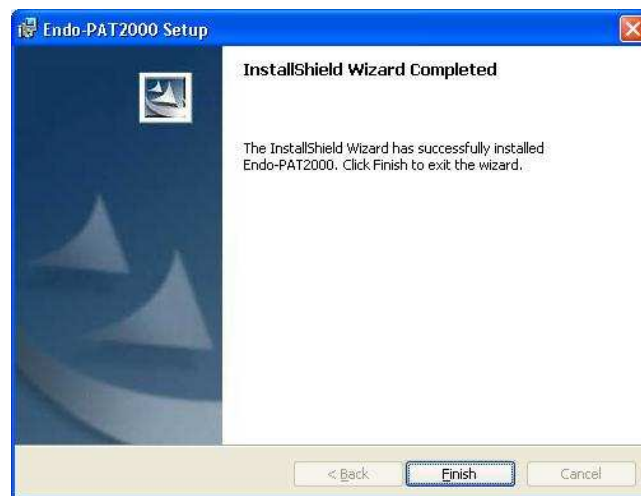

Figure 8 - Completion of installation
7. Press “Finish” when the installation is complete (Figure 8).